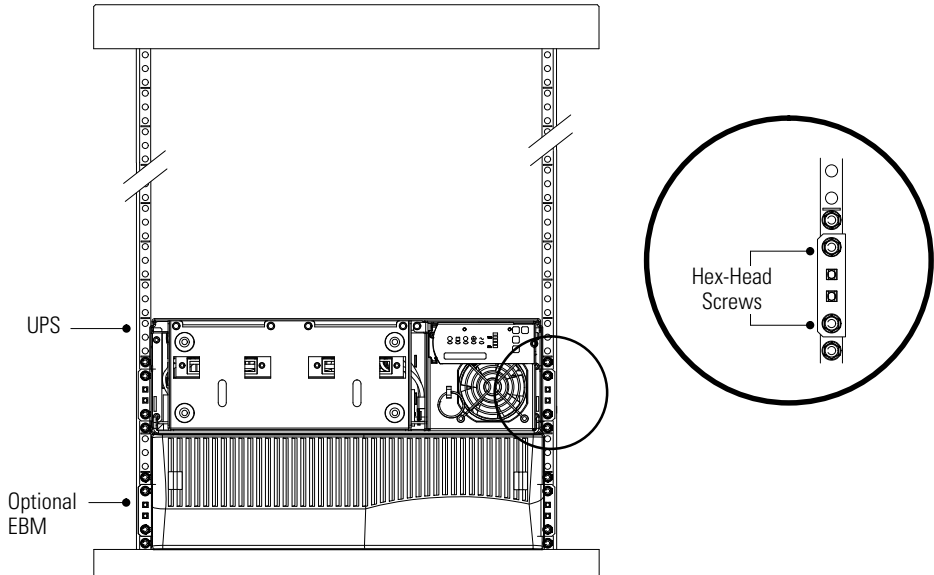

Figure 8. Securing the Mounting Brackets
NOTE The EBMs must be installed below the UPS as shown in Figure 8.
11. Secure the front of the cabinet to the rack using two hex-head screws in the top and bottom positions of each mounting bracket (see Figure 8). Repeat for each cabinet.